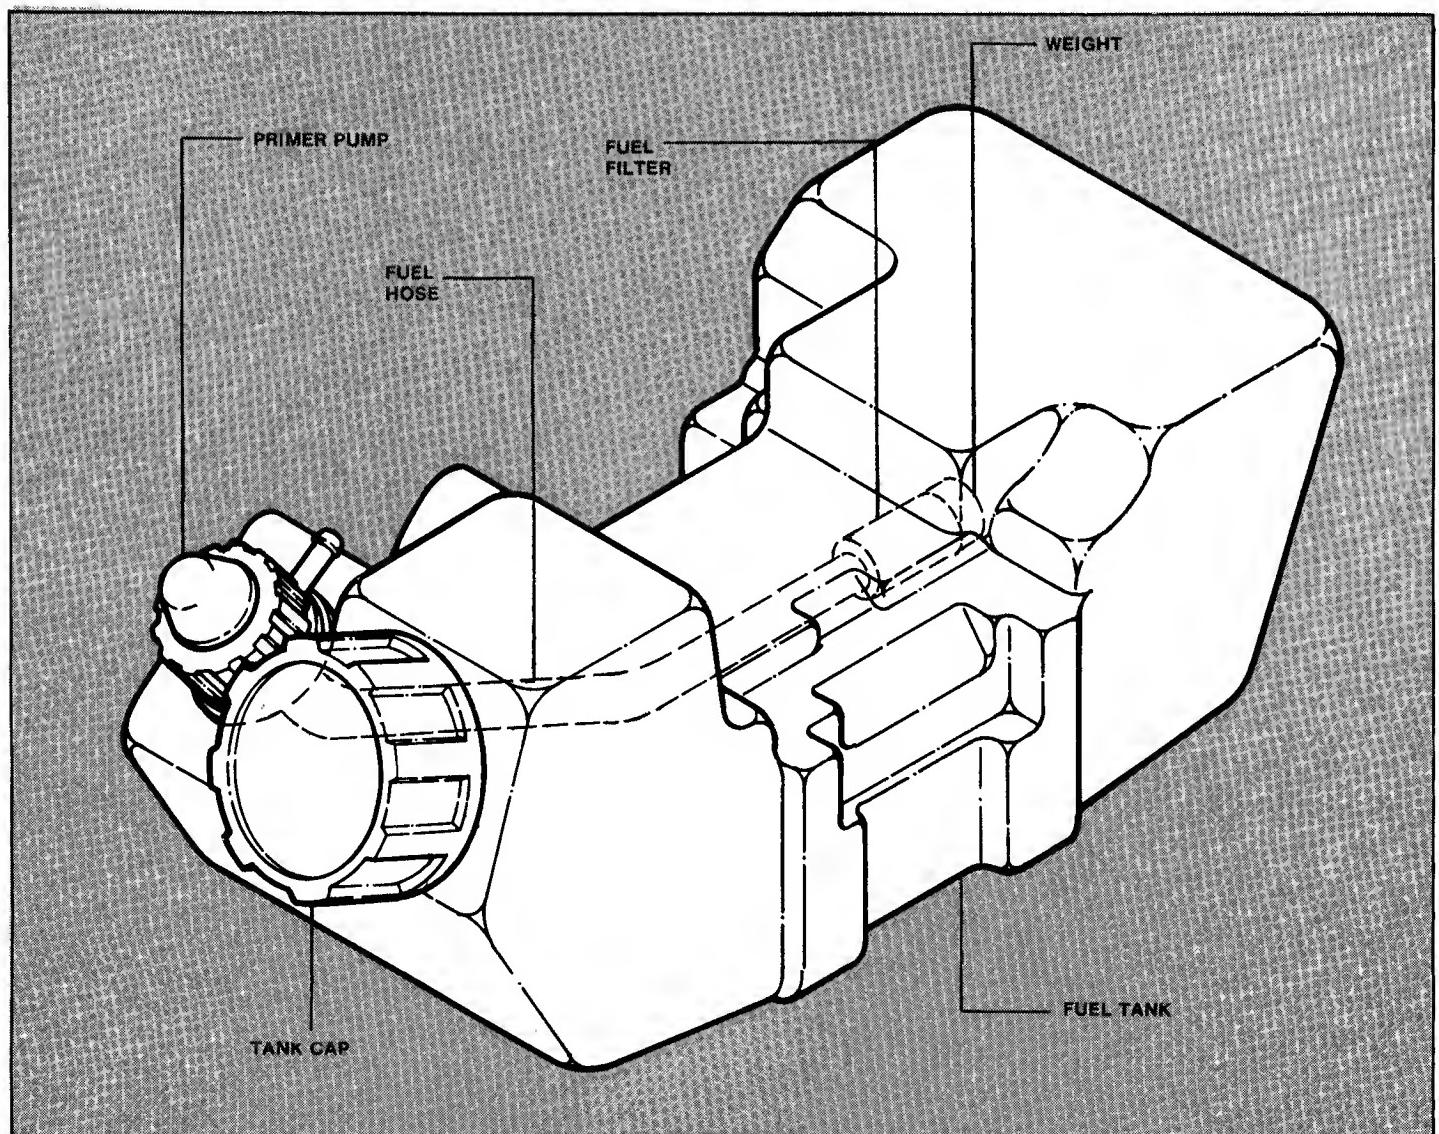

FIGURE 2.24
**Model 410 Fuel System Components:** Fuel tank; tank cap; primer pump; fuel hose; fuel filter and weight. See Figure 2.24.